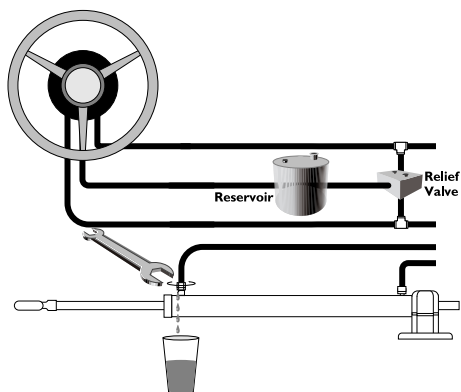

Fig 4.8 - Bleeding first hydraulic line
18. Open the bleed valve/fitting on the ram cylinder at the end that the ram is **extended** from. Bleed until there is a steady stream of oil with no air bubbles (Fig 4.8). Retighten the bleed valve.